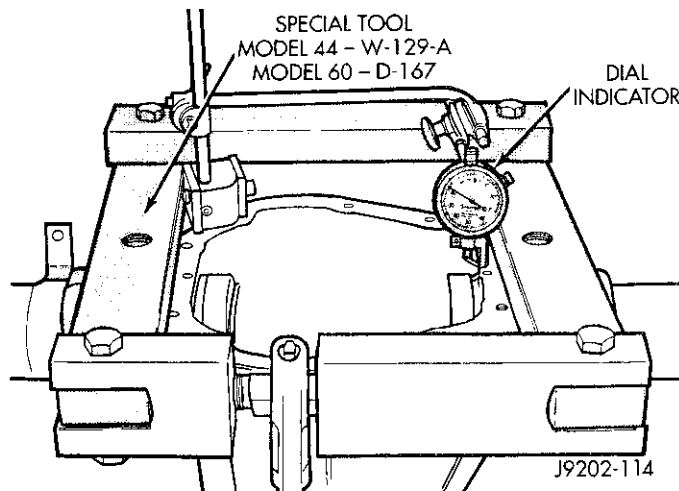
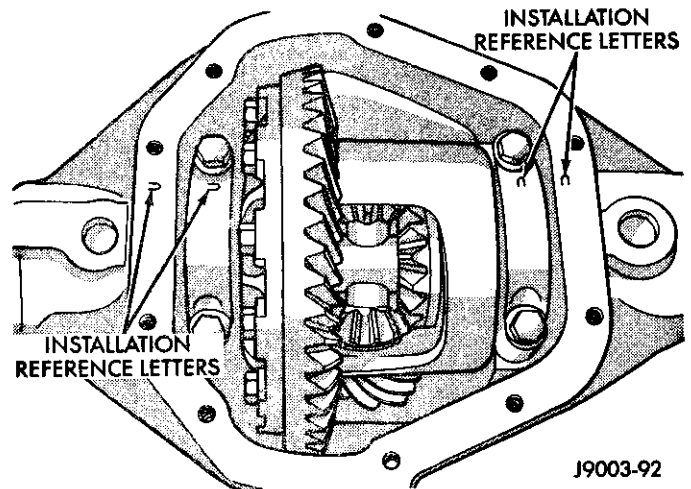

Fig. 83 Differential Housing Separation
Fig. 84 Differential Bearing Cap Reference Letters
(11) Install new axle shaft oil seal in differential housing with Installer D-112-44. Apply lubricant to lip of seal.
(12) Match each bearing cup with bearing (original). Install the cups on the bearings.
(13) Position Spreader W-129-A with the tool dowel pins seated in the locating holes (Fig. 83). Install the holddown clamps and tighten the tool turnbuckle finger-tight.
(14) Install a pilot stud at the left side of the differential housing. Attach Dial Indicator to housing pilot stud. Load the indicator plunger against the opposite side of the housing (Fig. 83) and zero the indicator.
(15) Separate the housing enough to install the case in the housing. **Separate housing a maximum distance of 0.38 mm (0.015 in) with the spreader tool.** Measure the distance with the dial indicator (Fig. 83).
(16) Remove the dial indicator.
(17) Install case in the housing. Ensure the differential bearings are fully seated. Remove the spreader.
(18) Observe the assembly reference marks and position the bearing caps at their original locations (Fig. 84). Tighten the bearing cap bolts to 95-122 N•m (70-90 ft. lbs.) torque.